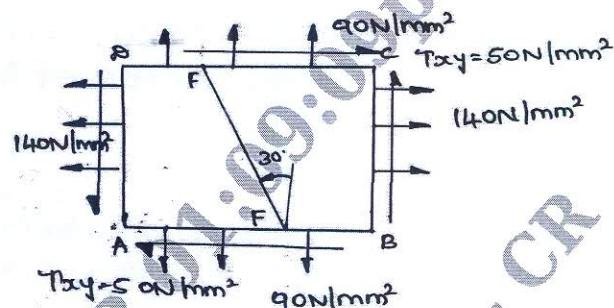

Fig. Q3
- 3 A point in a strained material is subjected to a stresses as shown in the Fig. Q3. Find